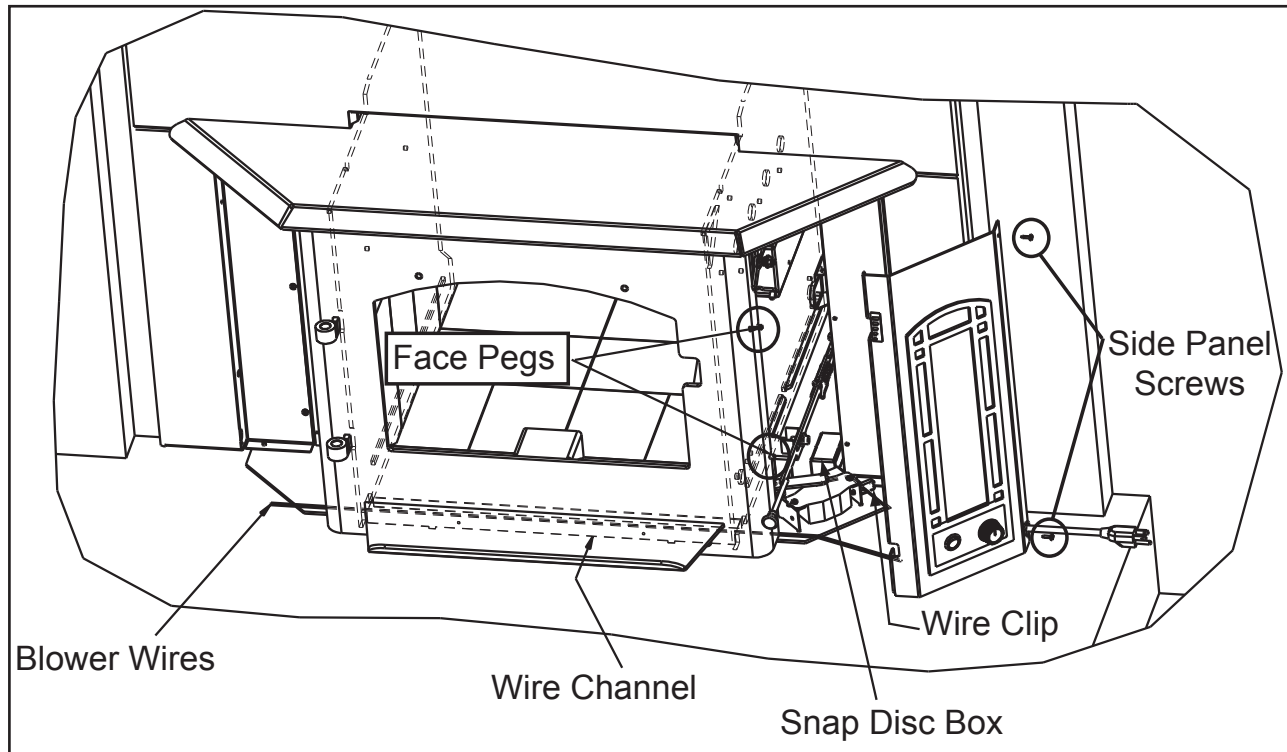

Figure 22.1
1. Place snap disc box in location shown in **Figure 22.1**.